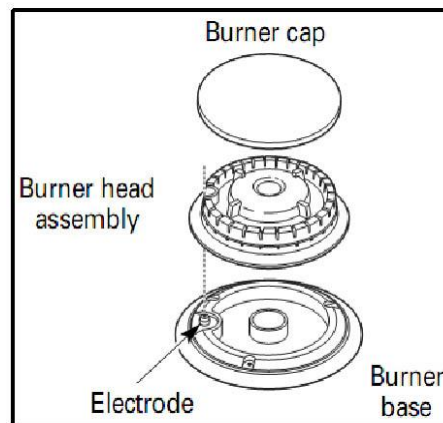

Figure 4
- Place a burner cap on each burner head (see Figure 4), matching the cap size to the head size. The cap for each burner has an inner locating ring which centers the cap correctly on the burner head. Be sure that all the burner caps and burner heads are correctly placed **BEFORE** using your appliance.